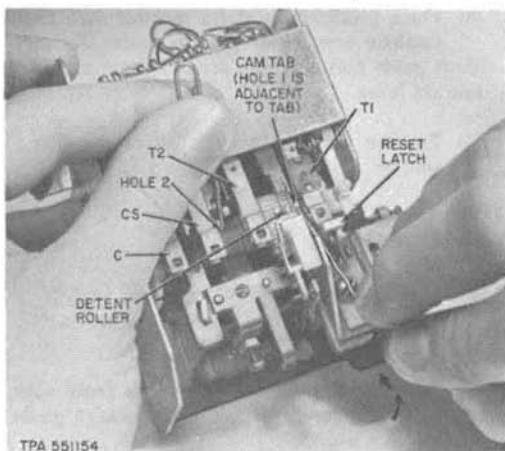

Fig. 13—Decreasing Totalizer Rate
Method II—Decreasing Rate (Fig. 13)
- (7) Repeat steps (1) through (3).
- (8) Position a second releaser or paper clip into the hole on T1 cam indicated as hole 1 (Fig. 13) and rotate cam in direction of the curved arrow as shown.
If hole 1 in T1 cam has been mutilated or clogged beyond use, place releaser or paper clip against tab as shown in Fig. 13 and push tab in direction of the straight arrow.